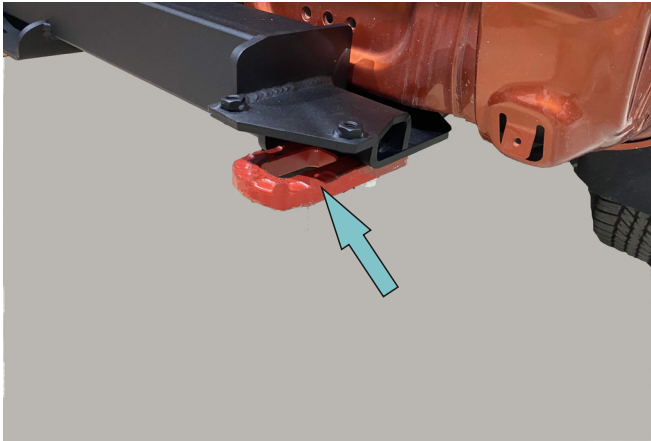

Fig. 13
13. Fix towing hooks (item 5) using bolts M12x1.25x40 and washers 12 (item A, I) (Fig. 13).